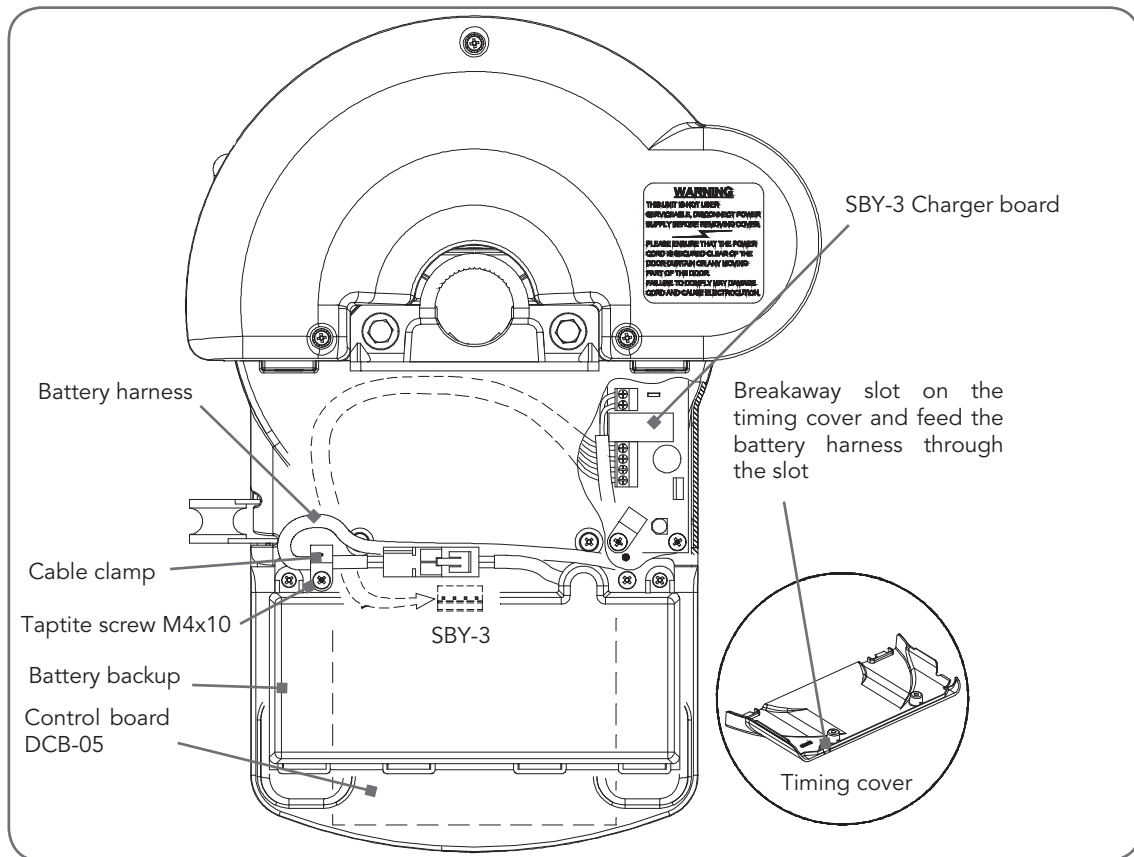

Fig 38
- Remove cable clamp and screw (Fig. 38). Retain cable clamp for later use.
- Mount the SBY-3 Charger Board on base and secure with four (4) Taptite 'P' M4 x 8 screws.
- Feed 4-Wire harness around timing assembly, through opening and plug into control board's SBY-3 connector (Fig. 38).
- Connect battery harness together (Fig. 38).